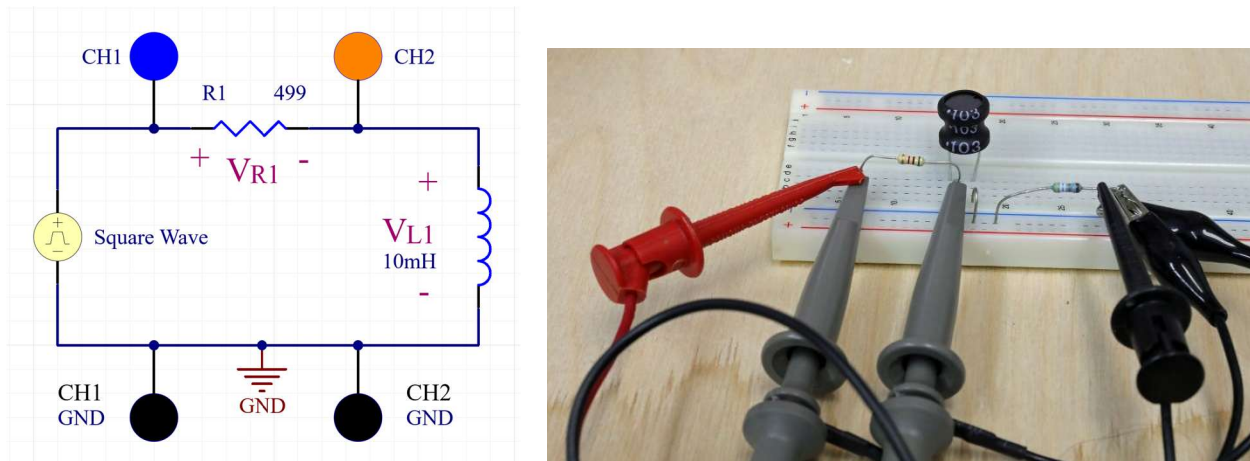

Figure 8: LC circuit with breadboard example.
8. You will measure the charging of an inductor to determine $\tau_{ChargeRL}$: Build the circuit shown in figure 8. R1 is 499 Ω or 510 Ω for a 10mH inductor. However, before you build this circuit measure the resistance of the inductor. $R_L =$ _____ Ω and the resistance of R1 = _____ Ω . The internal resistance of the inductor, R_L , will affect the RC measurement. What percentage is R_L compared to R1? _____. This R_L will increase the time constant R_L . Since the R_L can't be removed we